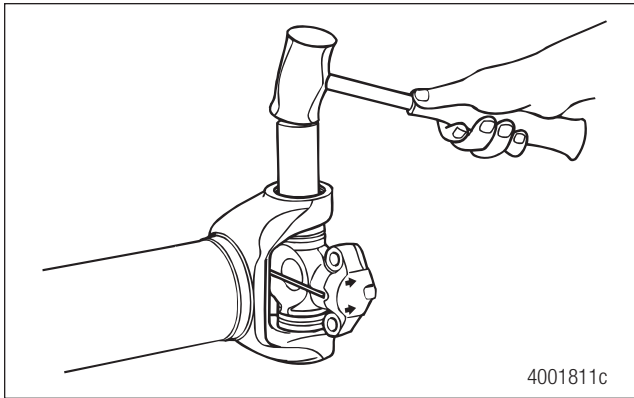

Figure 5.29
2. If necessary, use a brass drift and lightly tap the center of the bushing to assist in snap ring removal. Figure 5.29.